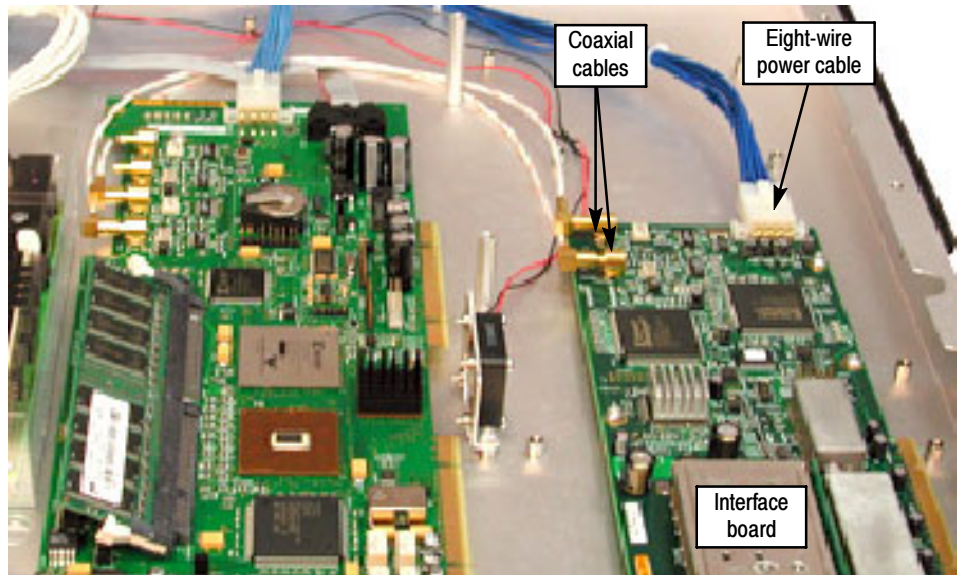

Figure 23: Cable connections for QAM (Annex A), QAM (Annex B, old version), QAM (Annex C), and QPSK (L-Band) interface boards
- Connect one coaxial cable from the connector labeled O/P on the interface board to the connector labeled I/P A on the TS Processor board. This is a push-fit connector. See Figure 23 for cable locations.